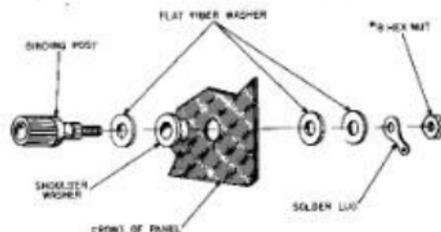

FIGURE 4. HOW TO MOUNT A BINDING POST
- (X) Mount the three binding posts in the three holes at the bottom of the front panel. Position the binding post holes up and down. The red binding post (J-2) must be in the center hole. The black binding posts (J-1 and J-3) must be on either side of J-2. Figure 4 shows how to mount a binding post using a shouldered fiber washer, three flat fiber washers, a solder lug, and a nut.